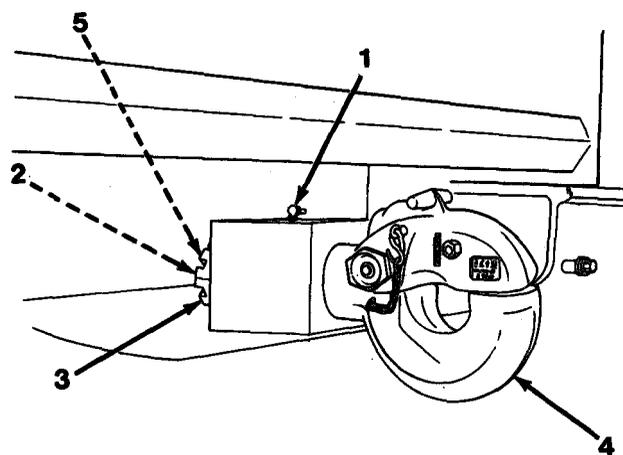

Figure 14-1
1. Install machinery bushing (5, Figure 14-1).
2. Install pintle hook (4).
3. Install nut (3) flush with machinery bushing (5).